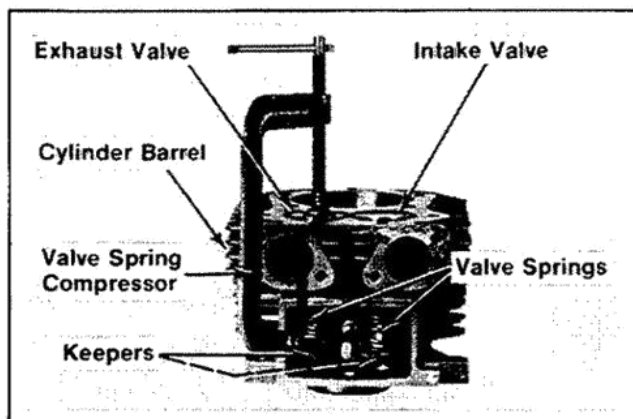

Figure 11-34. Installing Valves. Side #1 Shown.
3. Compress the springs using a valve spring compressor and install keepers. Refer to Figure 11-34.